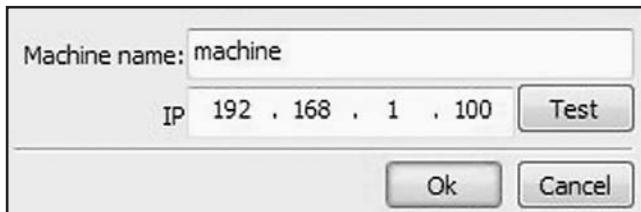

Figure 38. Example of IP address setting dialog box.
4. Select "Web" and click "Add" button to open IP Address Setting dialog box (see **Figure 38**).